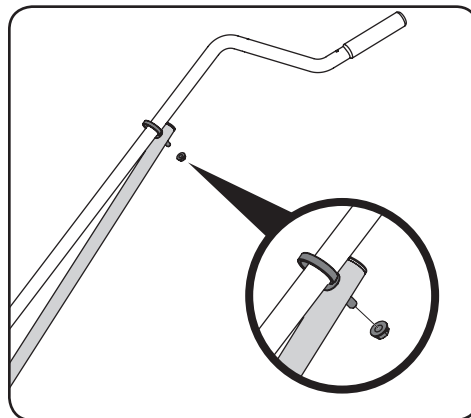

Figure 2-15
4. Connect lift handle (689-00656) to control tube assembly and fasten the eye bolt (603-0297) with hex flange nut (712-3004A) found in hardware pack 3 (689-00679). See Figure 2-15.